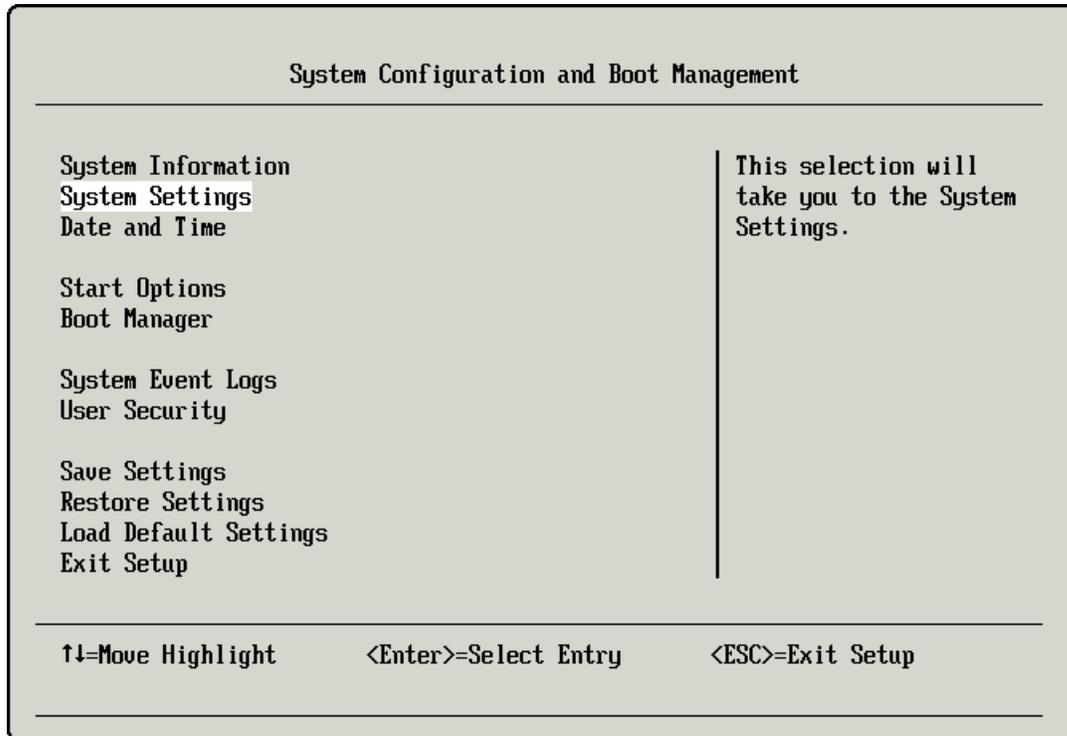

Figure 10-3 UEFI utility main menu
3. In the System Configuration and Boot Management panel (Figure 10-3) of the UEFI utility, select **System Settings**.
- Back in the System Configuration and Boot Management panel (Figure 10-3 on page 244), save your settings before exiting the UEFI utility.